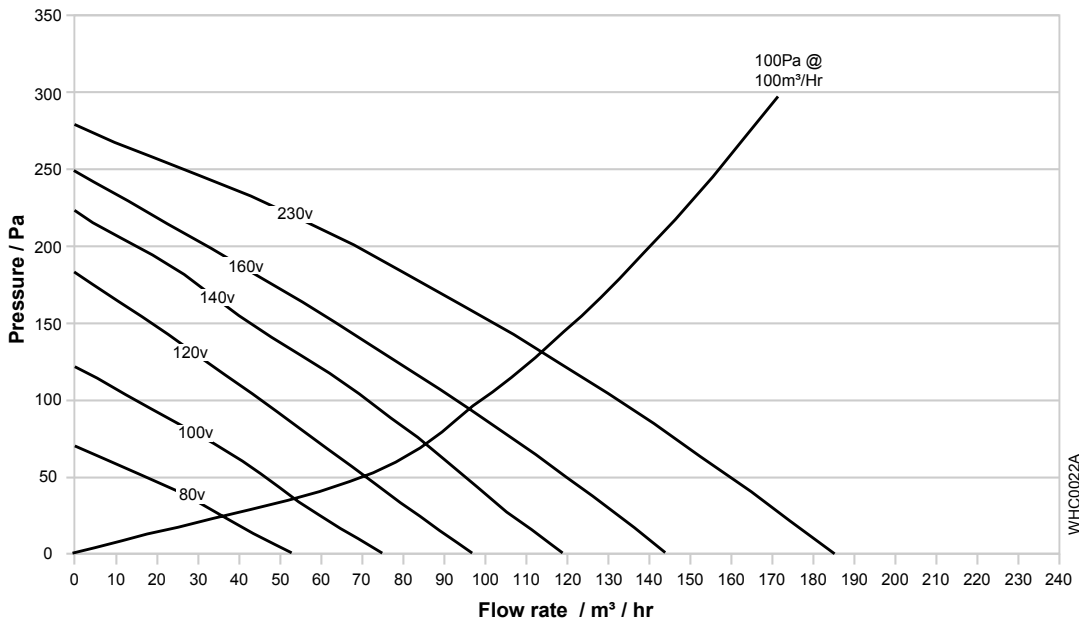

Fig. 8
Air is then moved through the unit (see Fig 8) If the fans become jammed then a thermal trip in the fan senses temperature rise and breaks the electrical supply to the motor. **This can only be reset by disconnecting from the mains supply.**
1. The MVHR unit has five normal fan speed settings and one boost setting. The **performance curve chart** (Section 3, Fig. 8) gives the ventilation rates at each fan speed setting compared to the pressure drop of the system.